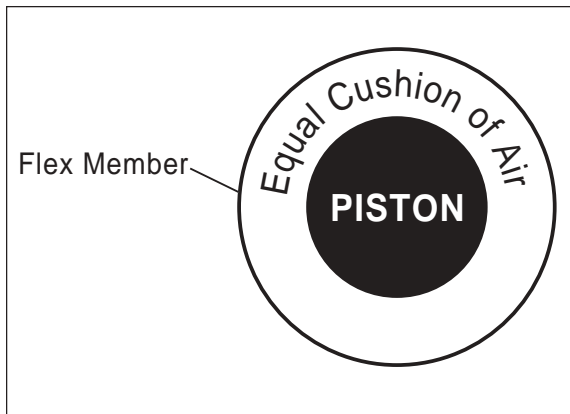

Figure 16
2. Use the slotted adjustment in the lower bracket to correctly align the air spring between the upper and lower brackets. This can be accomplished by lightly tapping it inboard or outboard for proper alignment. There should be a symmetrical cushion of air around the base of the air spring when correctly positioned (Figure 16).
5. On the driver-side, it may be necessary to secure the emergency brake cable away from the air spring using straps (BB) to prevent rubbing. Tie both cables together where they cross each other